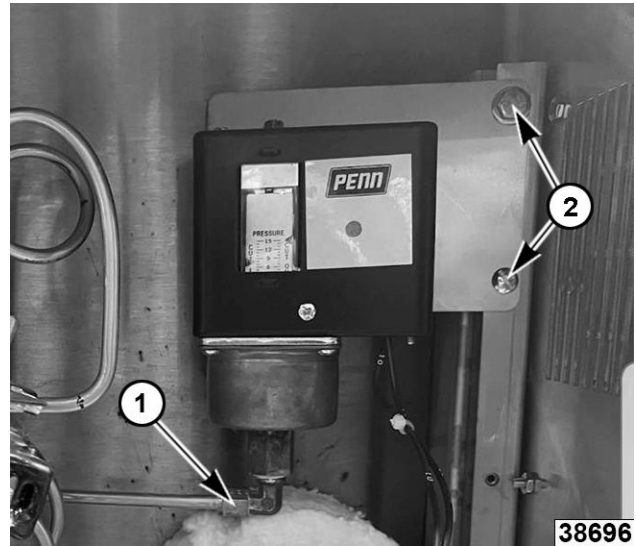

Fig. 15
2. Disconnect tubing (1, Fig. 15) from bottom of pressure limit switch.
3. Remove two screws with nuts (2, Fig. 15) from pressure limit switch mounting bracket.